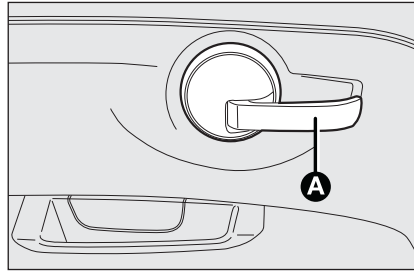

fig. 44
**To release** pull lever **A**-fig. 44.
**To lock**. Push the control lever **A**-fig. 44 toward the door